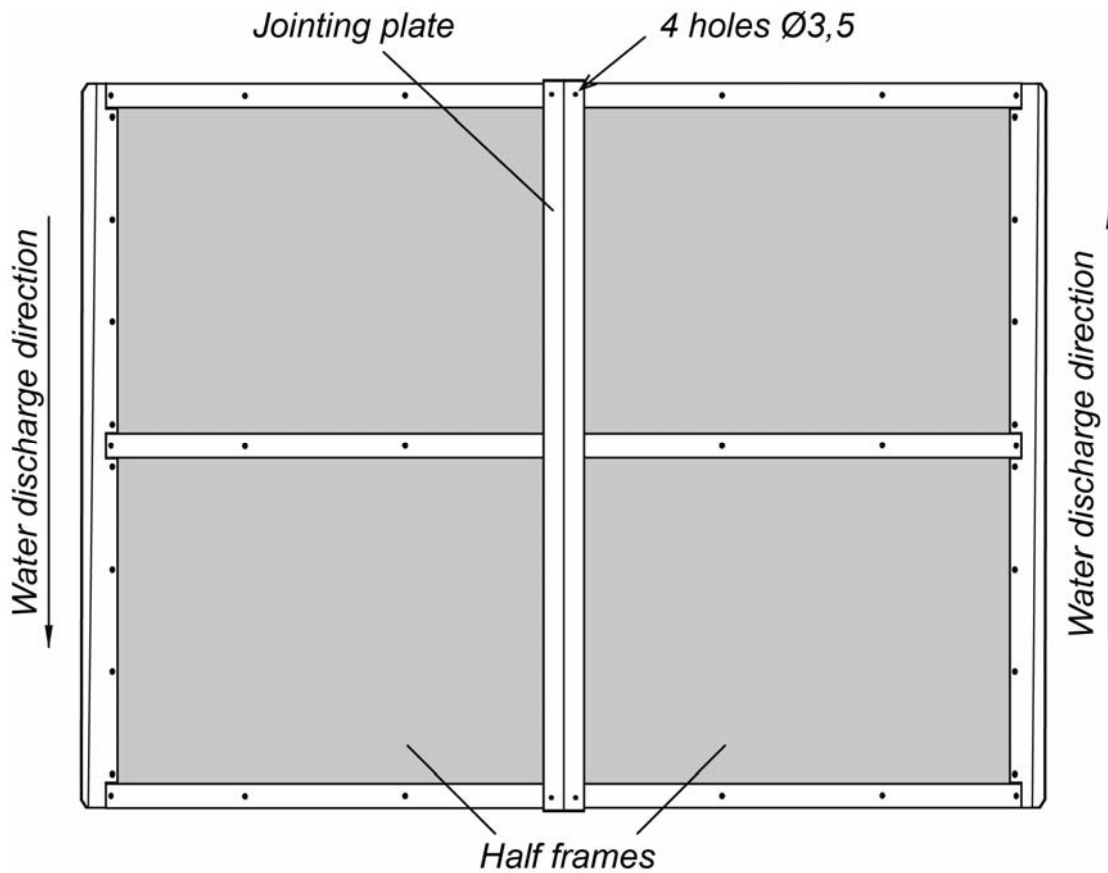

Figure 6 The top view of the connected half-frames #1 and #2 with the installed jointing plate
12. Set the jointing plate into working position, fixing it with 4,2x16 self-tapping screws (4 pcs.), having preliminary drilled the holes by drill Ø3,5 (see Figure 6).